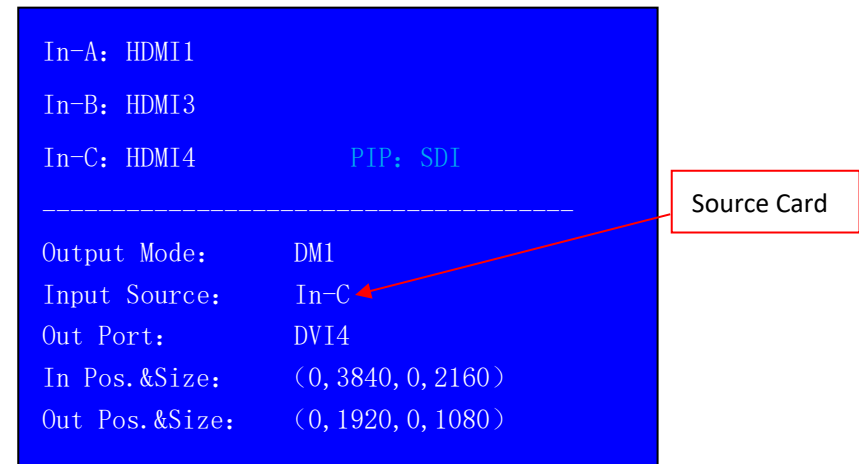

Figure 4-4
- 3.3) As Figure4-4, **A65** LCD shows source card In-C
- 4.2) **A65** only display one source card image at one time, LCD interface as Figure4-4